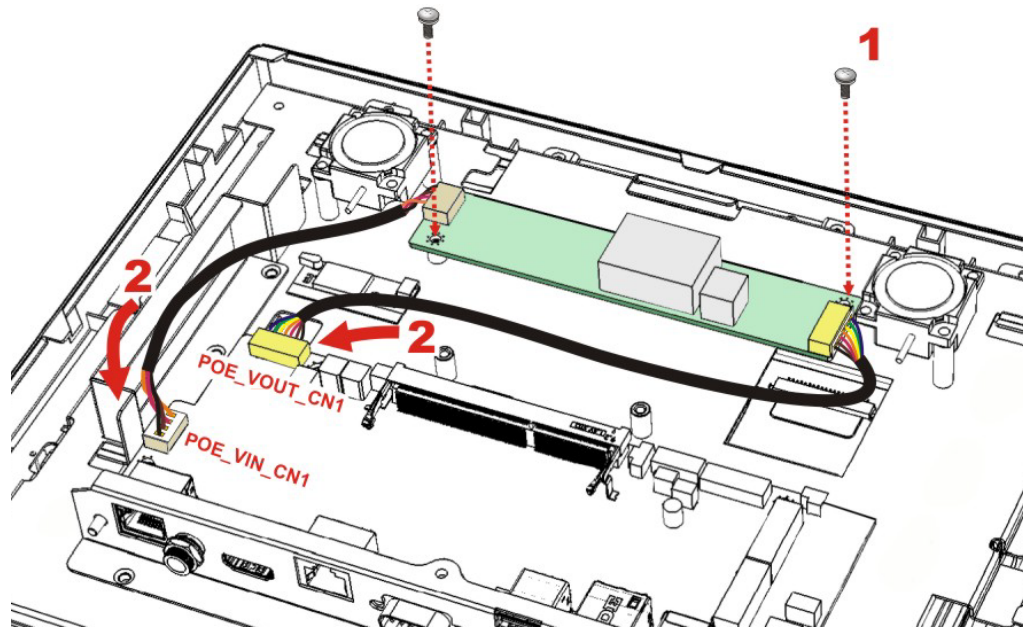

Figure 3-12: PoE Module Installation
Step 3: The space for installing the PoE module is located inside the chassis, above the motherboard. Secure the PoE module to the panel PC by using two retention screws as shown in Figure 3-12.